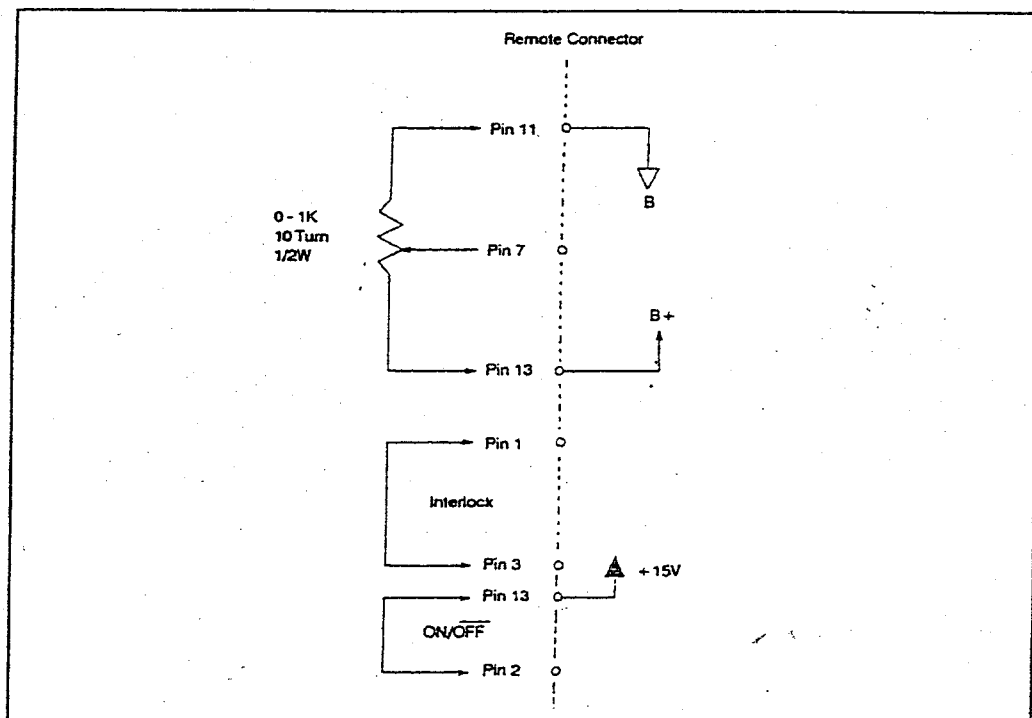

Figure 2-15. Remote Light Control Connections Using the Power Supply
3. Connect a linear potentiometer (1K ohm minimum resistance) between pins 11, 7, and 13 as illustrated in figure 2-15. Note that 0.1V input voltage between pins 11 and 7 will produce 1.0mW of laser output power. (Model 2013 calibration is 30 mV/mW, except for 2013-300MLM which is 10 mV/mW.)